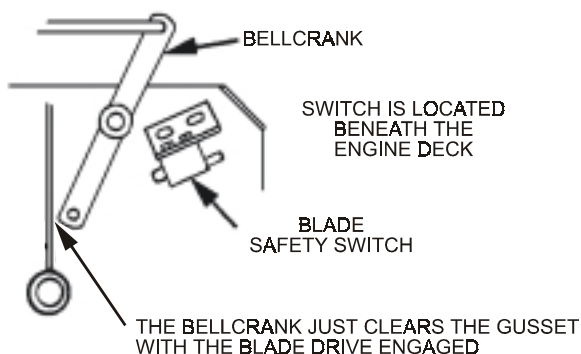
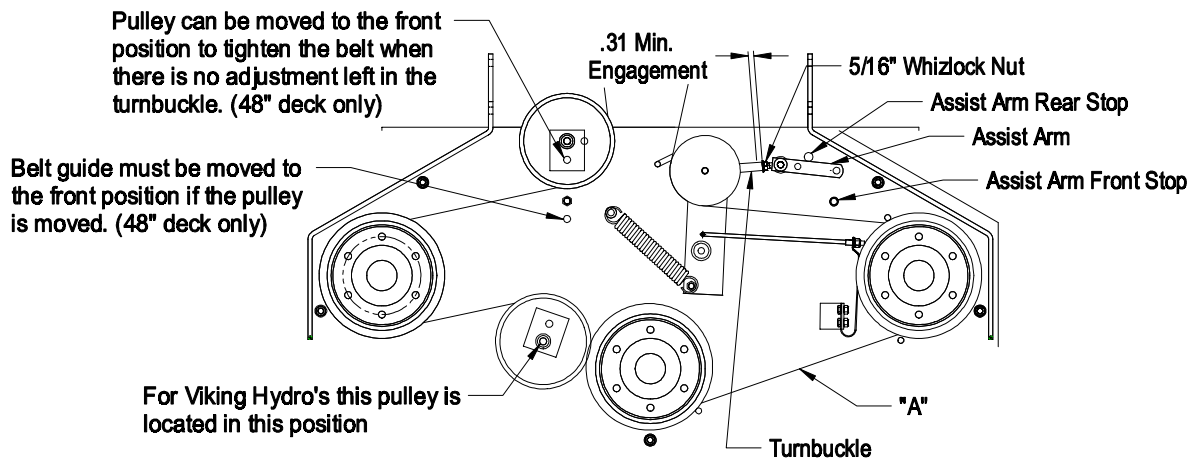

FIG. 9
FIG. 10
- b) With blade drive engaged (lever pulled up, adjust the linkage length to where the lower end of the bellcrank just clears the axle support gusset (See Figure 9). Make sure the assist arm is against the rear assist arm stop on the deck (See Figure 10). Push the lever down to the disengaged position. The assist arm should contact the front assist arm stop on the deck. If it does not contact, readjust so that the bellcrank is closer to the gusset.
- Belt must be tight enough so it does not slip during heavy loads while cutting grass. Over-tensioning will reduce belt and spindle bearing life. To adjust belt tension, loosen the 5/16" whizlock nut on turnbuckle and rotate the turn buckle; rotate turnbuckle toward rear of mower to tighten, and toward front of mower to loosen belt tension (See Figure 10).
For 48" Decks: If there is no adjustment left in the turnbuckle and the belt is still loose, the rear idler pulley can be repositioned in the front hole (See Figure 10). The belt guide located next to the pulley must also be repositioned in the front hole when the pulley is moved. The turnbuckle will need to be readjusted.
- e) Proper belt tension will require about 10 lbs. side pull on belt, halfway between pulleys, to deflect belt 1/2". (See Figure 10, Point A).